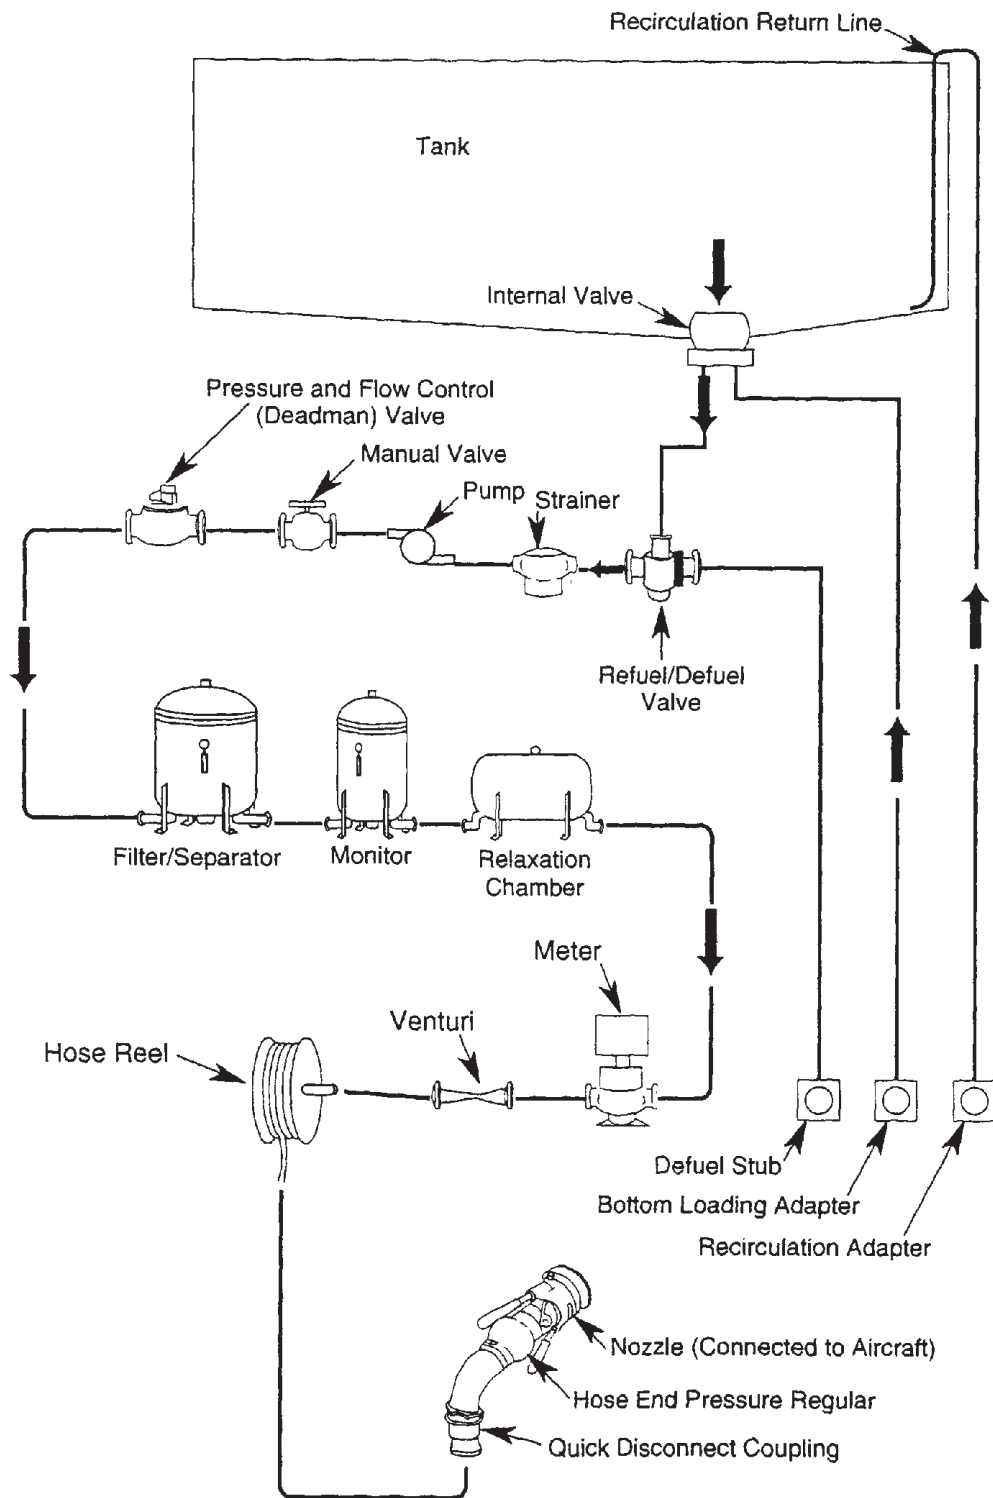

Figure 5-7.—Flow diagram for mobile refuelers.
- The piping system, including all hardware components, must be capable of dispensing fuel at the rated flow. A flow diagram of the general configuration of these system devices is shown in figure 5-7.